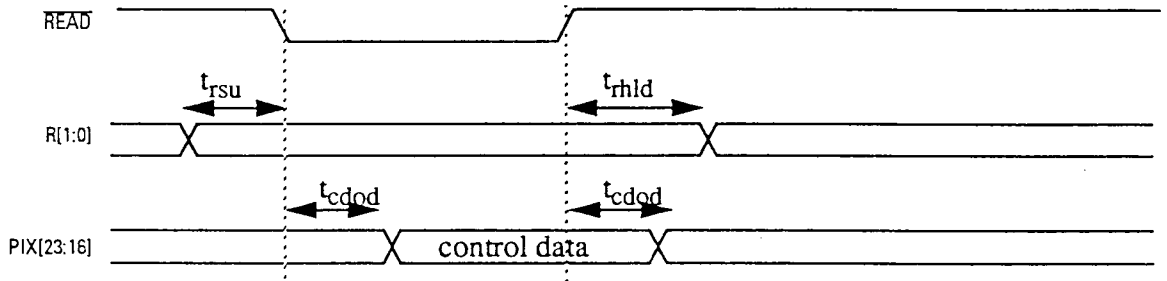

Figure 15. Read Timing Waveforms
- Figure 15, AC Timing Waveforms